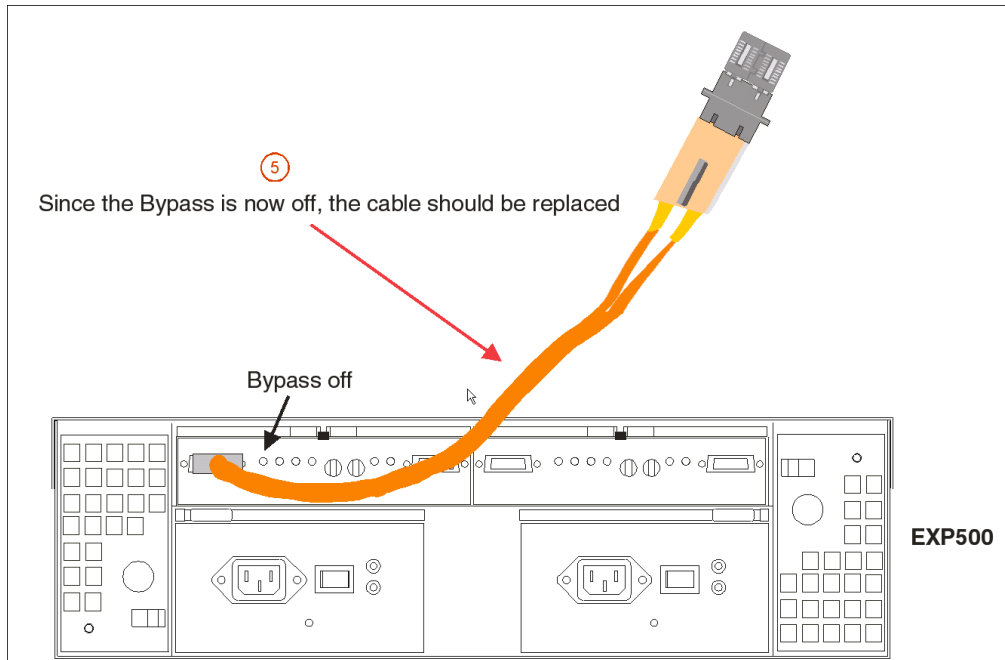

Figure 160. Insert wrap plug into element
5. As was shown in step 4, insert the wrap plug into the element from which the cable was removed in step 3. See Figure 160 on page 354.